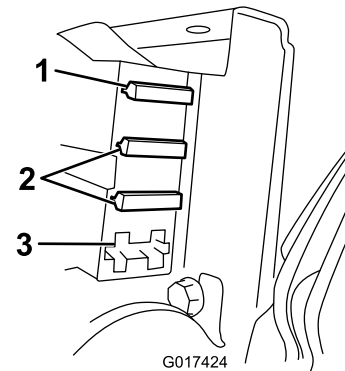

Figure 40
3. Check the fuses in the fuse block (Figure 40).
- If any of the fuses are blown, replace them with a fuse of the appropriate voltage and amperage (Figure 40).